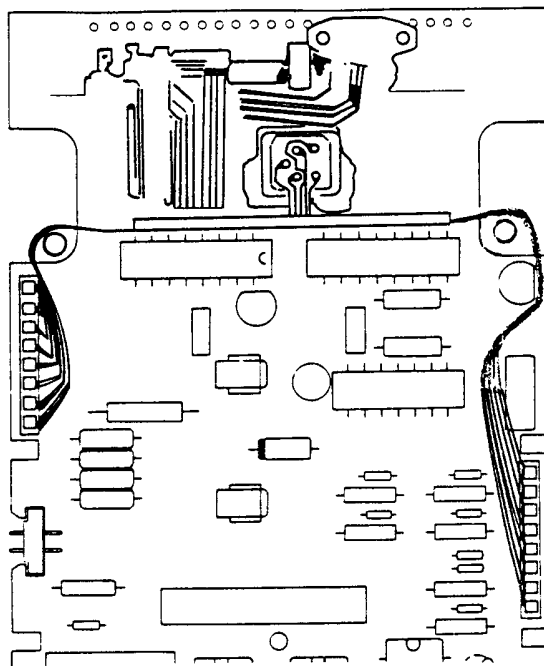

Figure 11. Card Reader Wire Routing
3. Route the card reader strip cables as shown in Figure 11. Be sure the longer of the two cables is routed to the lefthand (inside) side of the trim pot. After plugging the strip into the connector, push the lower edge of the strip up against the connectors as shown in figure 11.